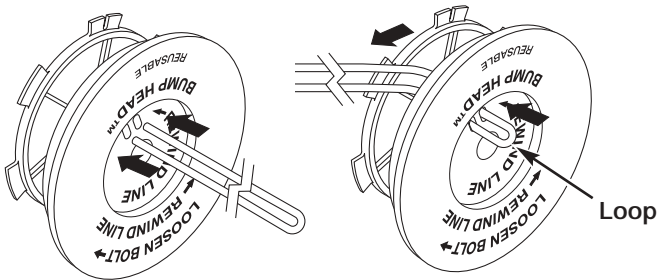

FIGURE 28
6. Take approximately 30 feet (9.14 m) of new trimming line, loop it into two equal lengths. Insert each end of the line through one of the two holes in the inner reel, Figure 28. Pull the line through the inner reel so that the loop is as small as possible.